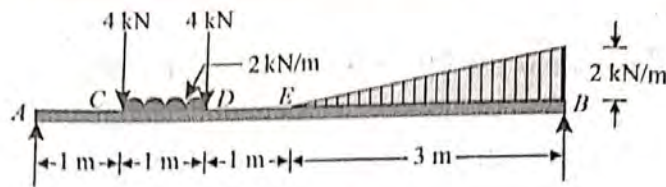

Fig. 9.10.
**Example 9.4.** A simply supported beam AB of 6 m span is subjected to loading as shown in Fig. 9.10.